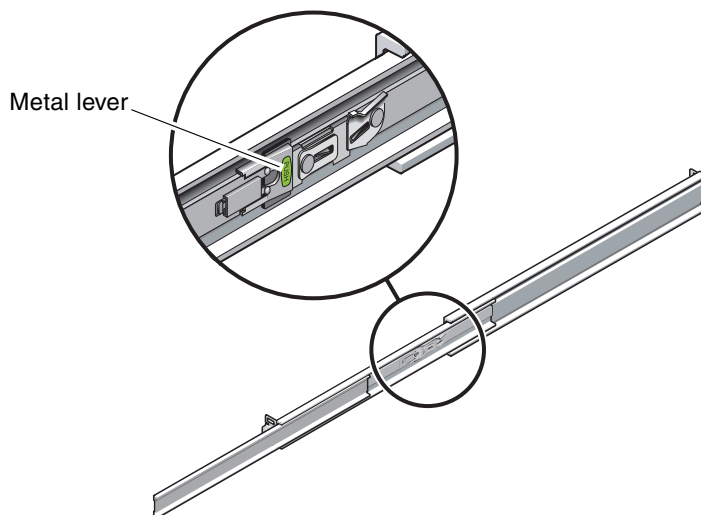

FIGURE 3-35 Unlocking the Slide Rail Lever Stops
5. When the server is fully extended out, release the slide rail lever stops (FIGURE 3-35).